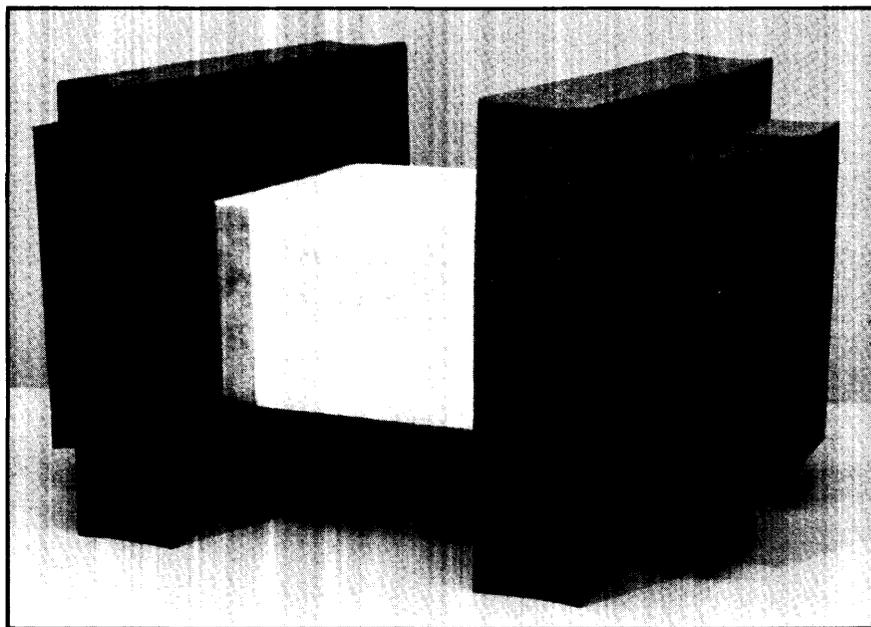

Figure 5-17: Foam End Caps
4. Refer to Figure 5-17 and close the inner box and insert into the two foam end caps (P/N 9220-3450).